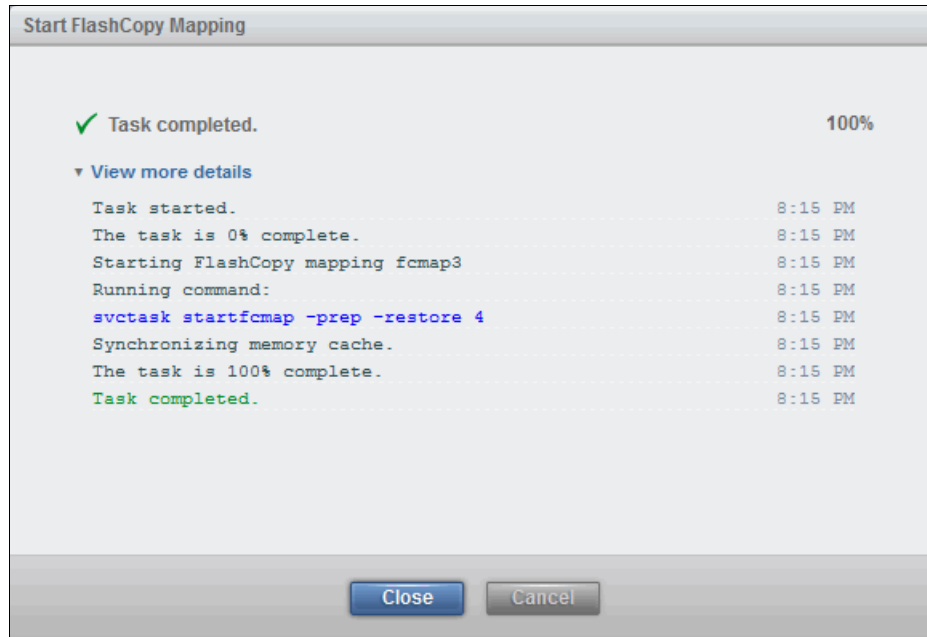

Figure 10-51 FlashCopy restore command
10. Click **Start** to write over FlashCopyVo16 with the original bitmap data that was saved in the FlashCopy FlashCopyVo17. The command then completes, as shown in Figure 10-51.